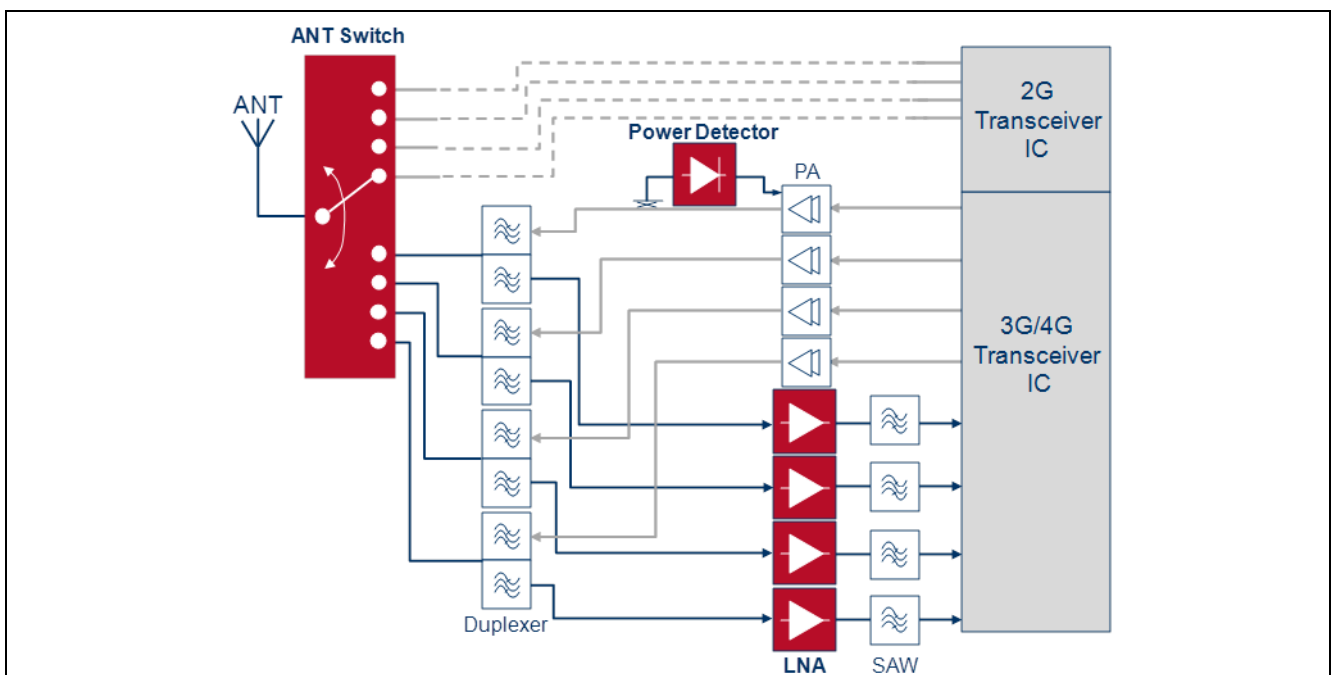

Figure 1 Example of Application Diagram of RF Front-End for 3G and 4G Systems.
Figure 1 shows an example of the block diagram of the front-end of a 4G modem. A SPnT switch connects one side the antenna and several duplexers for different 4G bands on the other side. Every duplexer is connected to the transmitting (TX) and receiving (RX) paths of each band. The external LNA, here for example Infineon single-band LNA BGA7M1N6, is placed on the RX path between the duplex and the bandpass SAW filter. The output of the SAW filter is connected to the receiver input of the transceiver IC.